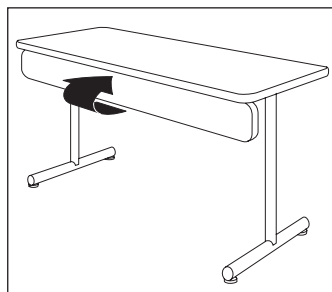

Figure 3
1. Table must be in full upright and open position (Figure 3).
2. Standing in front of modesty panel, reach underneath the table and flip the modesty panel towards you (Figure 3).
3. With modesty in flipped-up flat position, push panel back underneath the table until lock catches (Figure 3).